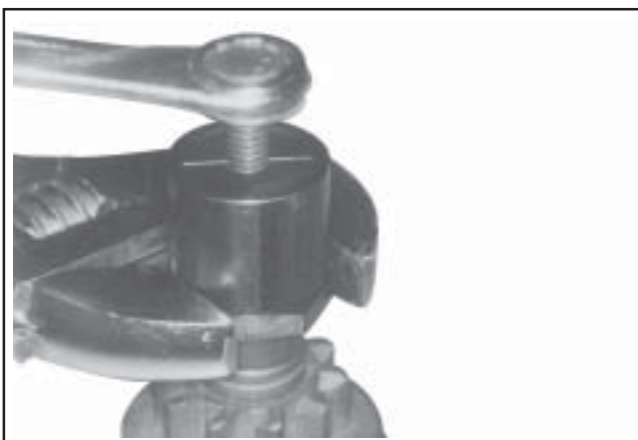

Figure 8-37. Holding Tool and Turning Center Screw (Clockwise) to Remove Retaining Ring.
5. Thread the center screw into the removal tool until you feel resistance. Use a wrench (1-1/8" or adjustable) to hold the base of the removal tool. Use another wrench or socket (1/2" or 13 mm) to turn the center screw clockwise (see Figure 8-37). The resistance against the center screw will tell you when the retaining ring has popped out of the groove in the armature shaft.